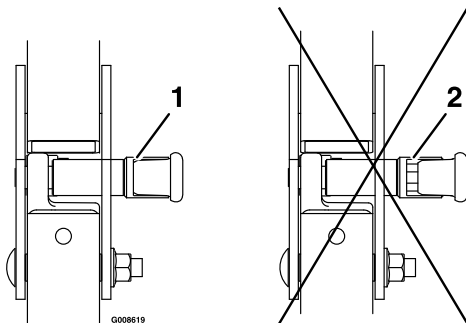

Figure 12
5. Make sure the knobs are fully engaged with the roll bar in the raised position. The upper hoop of the roll bar may need to be pushed forward or pulled rearward to get both knobs fully engaged (see Figure 12).